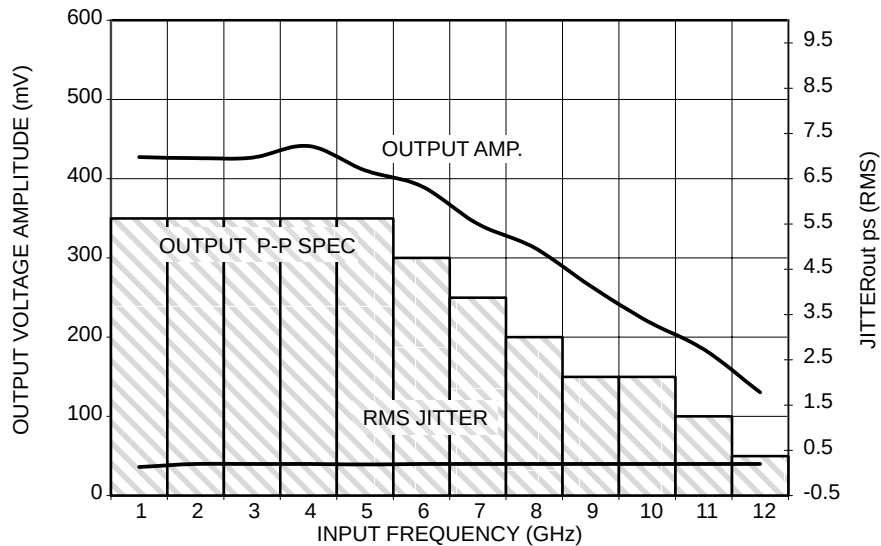

Figure 4. Output Voltage Amplitude (V_{OUTPP}) / RMS Jitter vs. Input Frequency (f_{in}) at Ambient Temperature (Typical)
23. Measured using a 500 mV source, 50% duty cycle clock source. All loading with $50\ \Omega$ to $V_{CC} - 2.0\text{ V}$. For minimum f_{max} value of 10.709 GHz, output amplitude is approximately 200 mV (as shown in Figure 4, where output P-P spec is shown as a minimum/guarantee of around 150 mV). Input edge rates 40 ps (20% - 80%).
28. Measured using a 500 mV source, 50% duty cycle clock source. All loading with $50\ \Omega$ to $V_{CC}-2.0\text{ V}$. For minimum $f_{\max}$ value of 10.5 GHz, output amplitude is approximately 200 mV (as shown in Figure 4, where output P-P spec is shown as a minimum/guarantee of around 150 mV). Input edge rates 40 ps (20% - 80%).